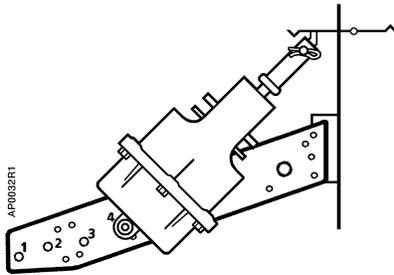

Figure 8. No. 6 Actuator Frame Mounting, Normally Open Damper.
- b. Normally open damper: attach plate to lug (Figure 8). Place pivot post in Hole 4.